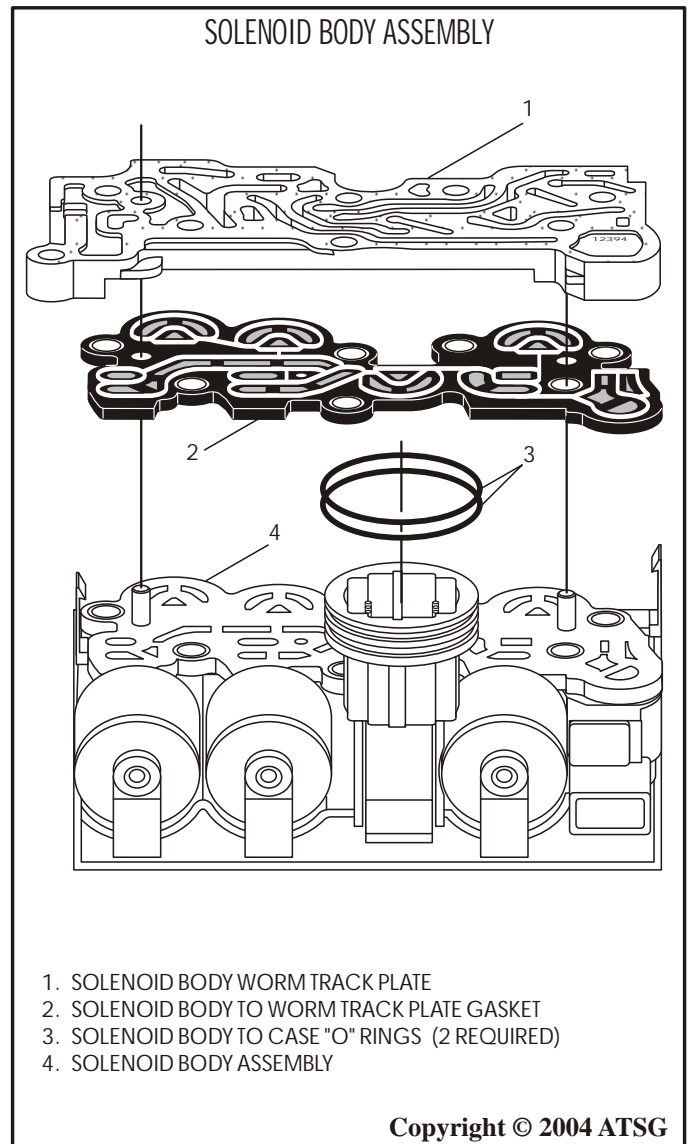

Figure 121
2. Remove the worm track plate by prying back the locking tabs (See Figure 121).
3. Remove and discard the solenoid body to worm track plate gasket (See Figure 121).
4. Remove and discard the two solenoid body to case "O" rings, as shown in Figure 121.
6. Install the new solenoid body to worm track plate gasket over the dowels on the solenoid body, as shown in Figure 121.
7. Install the worm track plate over the dowels on the solenoid body, as shown in Figure 121, and snap into position.
8. Install two new solenoid body to case "O" ring seals, as shown in Figure 121.